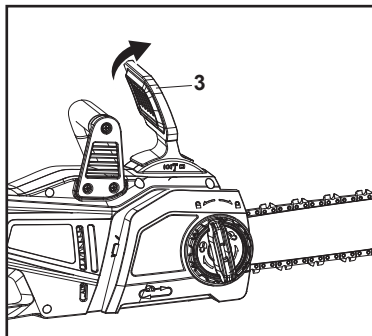

Fig. 15, Engaged chain brake
Engaged chain brake: When the chain brake lever (3) is in the engaged position, the saw chain is stopped immediately (Fig. 15).